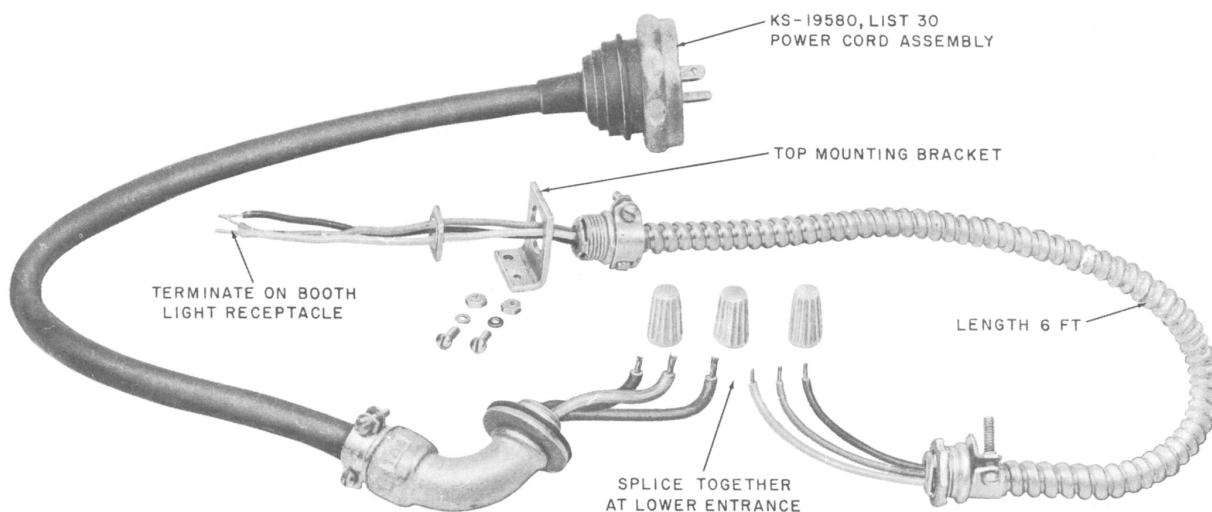

Fig. 4—KS-19580, List 31 Power Cord Group
- KS-19580, List 31 power cord group (Fig. 4)—Used to bring power into the bottom of an indoor or outdoor booth.